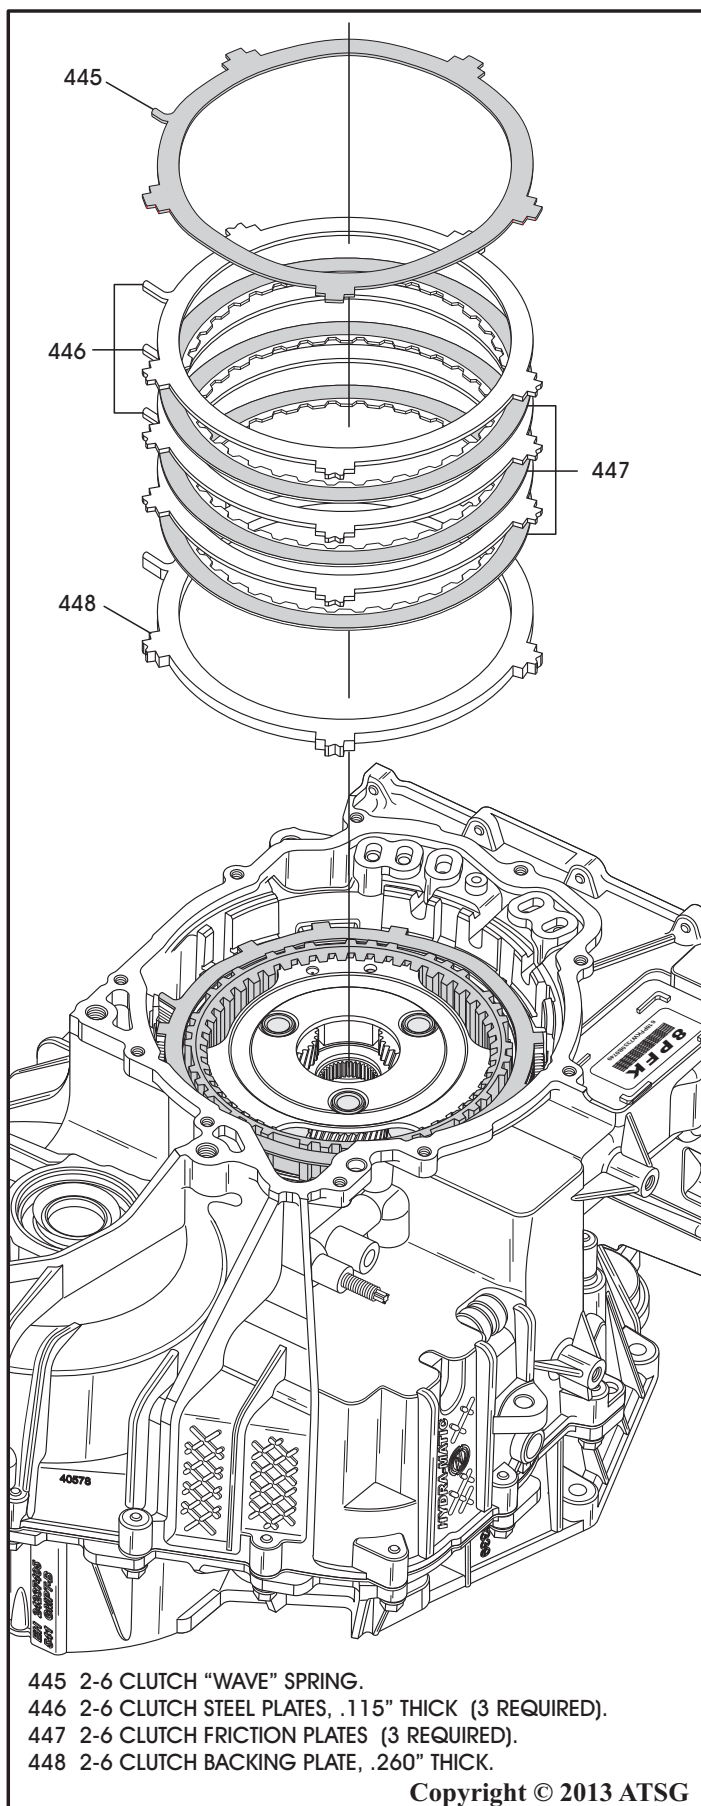

Figure 204
37. Install the 2-6 clutch backing plate into the case, as shown in Figure 204.
38. Install the 2-6 clutches beginning with a friction plate and alternating with steel plates, as shown in Figure 204, until you have installed 3 of each.
39. Install the 2-6 clutch wave plate, as shown in Figure 204, on top of the last steel plate.